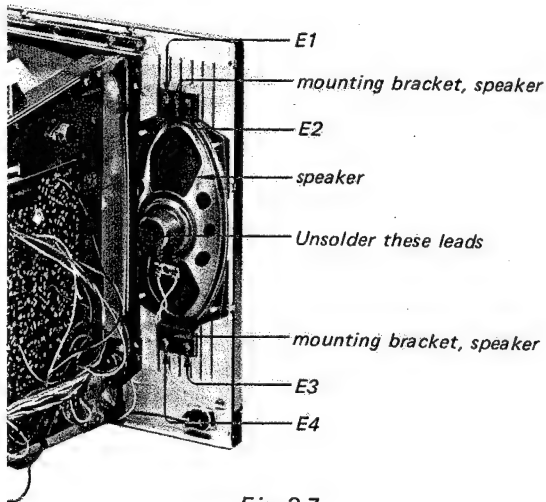

Fig. 2-7.
2. Remove the four screws labeled E1~4 in Fig. 2-7.